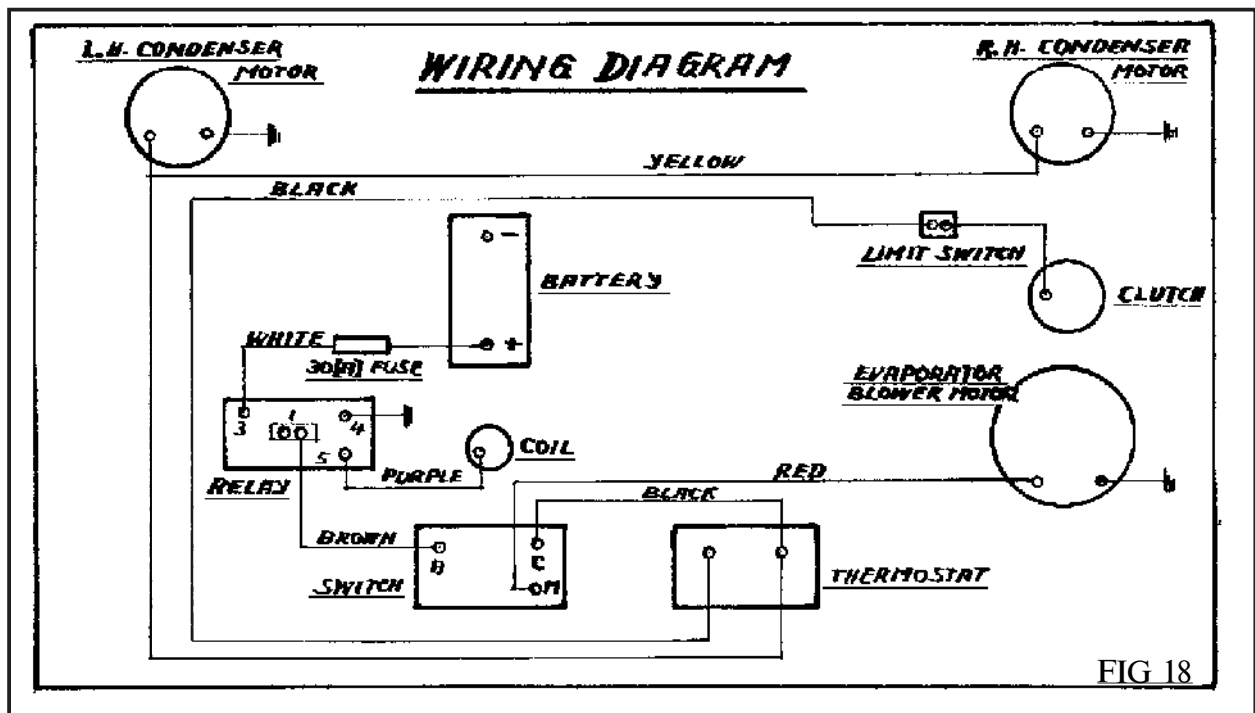

FIG 18
2. Now make all electrical connection to the relay, battery, and condenser motors referring to FIG: 18